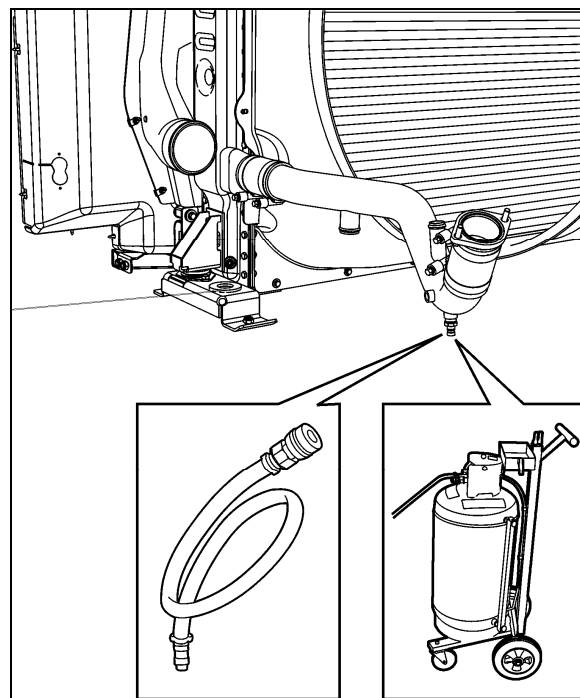

FIGURE 8: EXTRACTING COOLANT
5. Connect coolant extractor (Fig. 8). Use coolant extractor to drain the coolant from the engine. An alternate method is to drain the coolant into a suitable container using the drain hose.
4. Connect coolant extractor (Fig. 8). Use coolant extractor to drain the coolant from the engine. An alternate method is to drain the coolant into a suitable container using the drain hose.